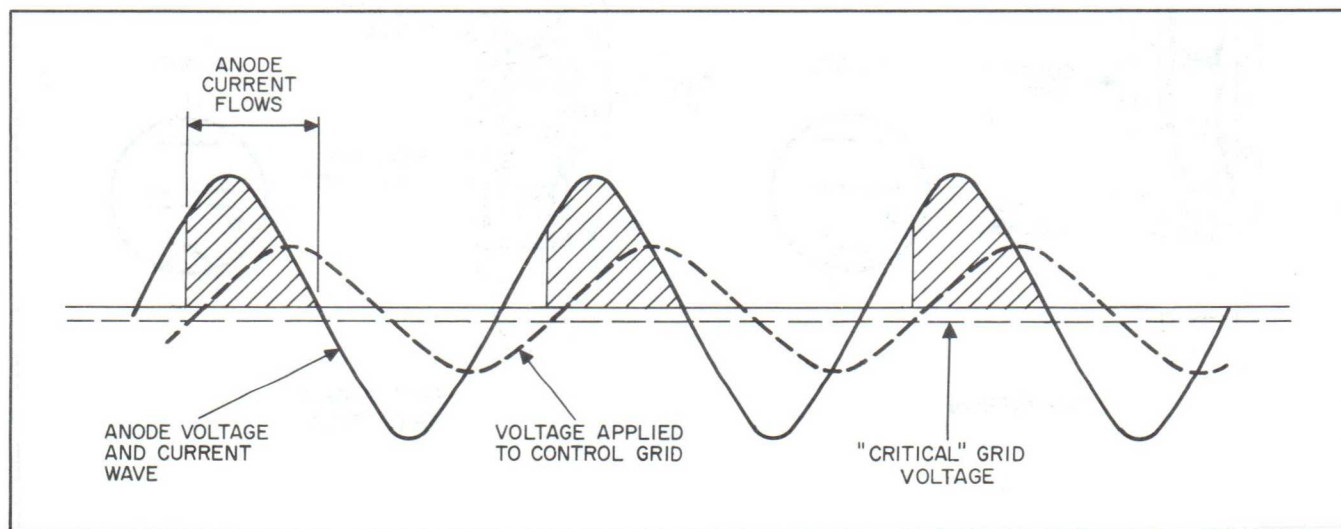

Figure 16. Controlling Thyatron Anode Current
f. Figure 16 is a graphical illustration of a thyatron used with an alternating current supply. By changing the time or point at which the grid voltage equals the "critical" voltage, the "firing" point can also be changed, and the average current controlled from a very low value to the maximum rating of the tube.